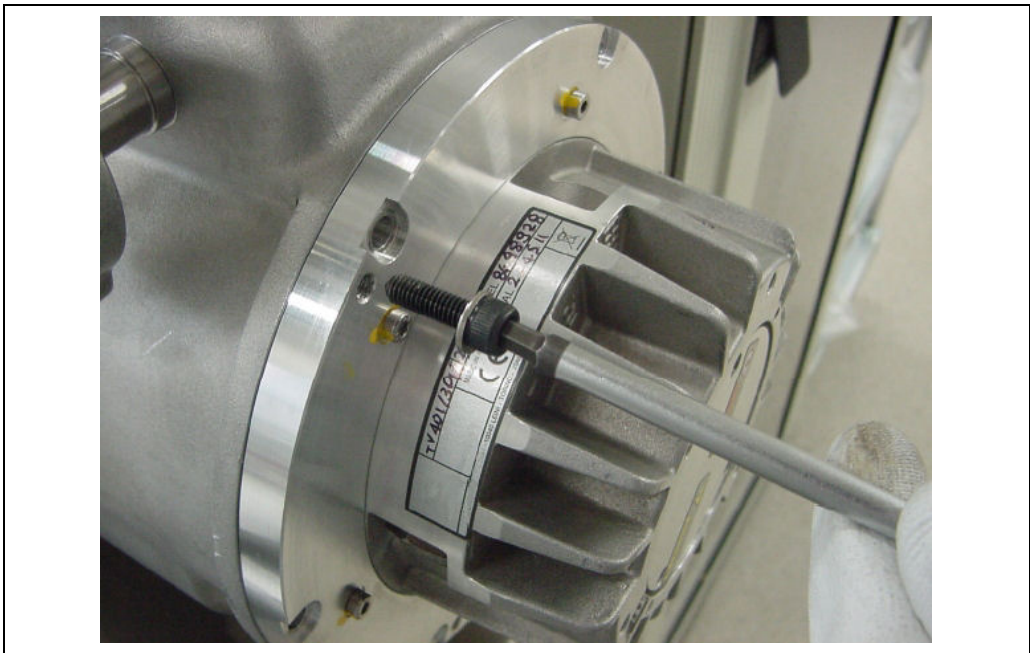

Figure 38
- Engage 3 sphere-screws into the M6 threaded holes present on the pump flange (blue rhombus in Fig. 2, see Fig. 38).